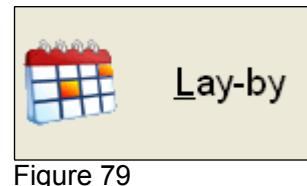

Figure 79
3. Select the Lay-By button (see Figure 79) or **Ctrl+L** from the LOTS Point of Sale screen.